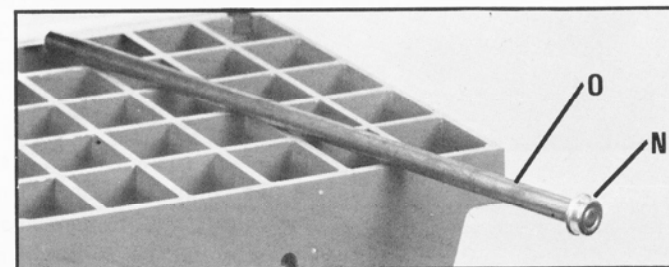

Fig. 9
2. Press push nut (N) on one end of axle (O), as shown in Fig. 9.